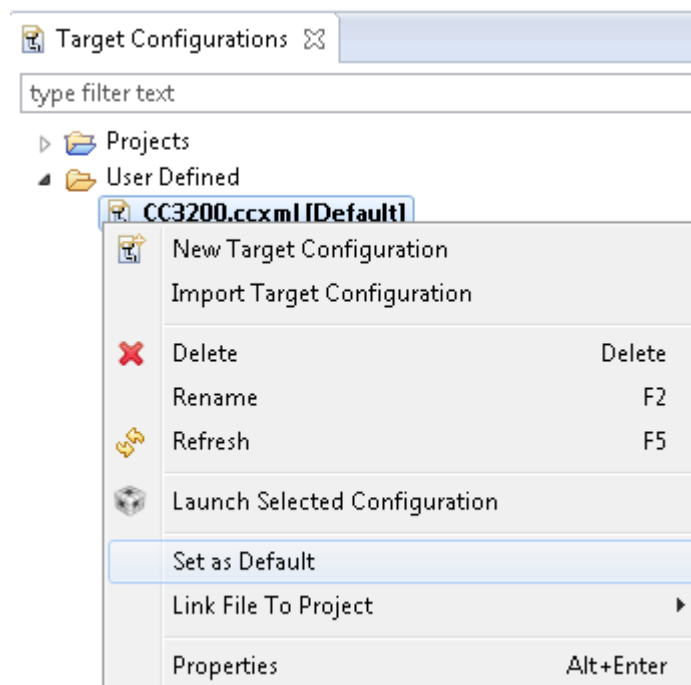

Figure 16. Set as Default
15. Set this new configuration as the default by right clicking on the file name as shown in Figure 16.